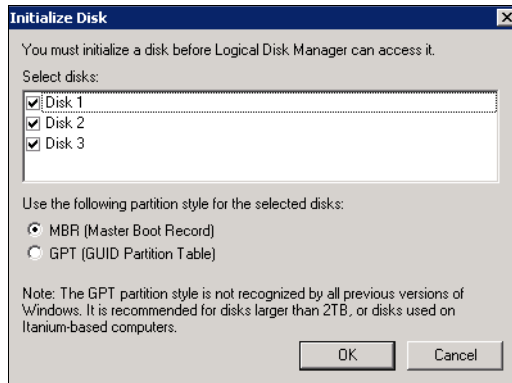

Figure 7-13 Windows Server 2008 R2: Initialize Disk
9. Mark all of the disks that you want to initialize and then click **OK**, (Figure 7-13).